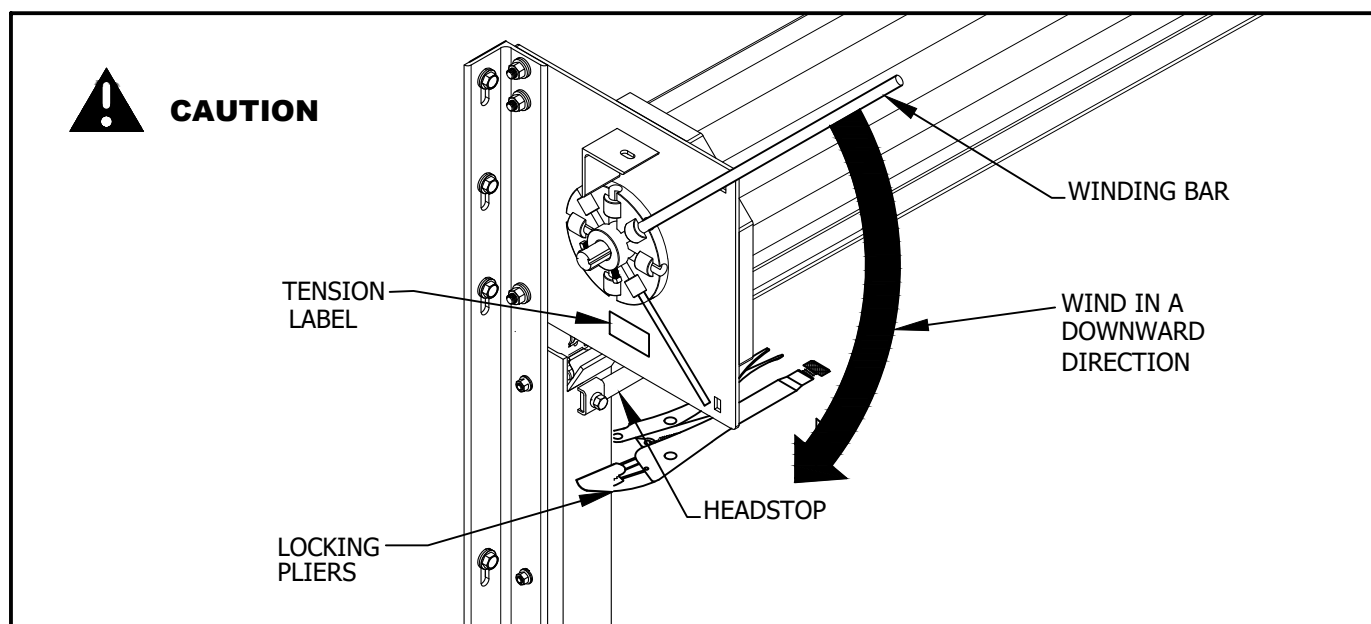

FIGURE 18
- a. Install locking pliers to service cutouts approximately 4" down from head stops to arrest any downward curtain travel as shown in Figure 18.
- c. Apply tension from the top, downward, as shown in Figure 18 to the preload amount shown on tension label and on barrel sticker.
2. With curtain in the fully open position, install locking pliers on each guide approximately 4" - 6" below curtain stops to arrest downward curtain travel as shown in Figure 18.
4. Begin releasing spring preload tension using winding bars and the tension wheel, in reverse order as shown in Figure 18, until barrel begins to rotate towards the closed position.